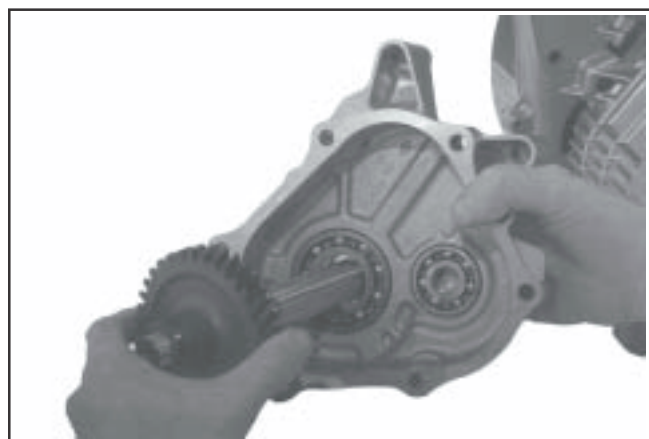

Figure 9-72. Removing Output Shaft/Gear from Cover.
4. Pull the output shaft/gear assembly out of the housing cover or closure plate. See Figure 9-72.